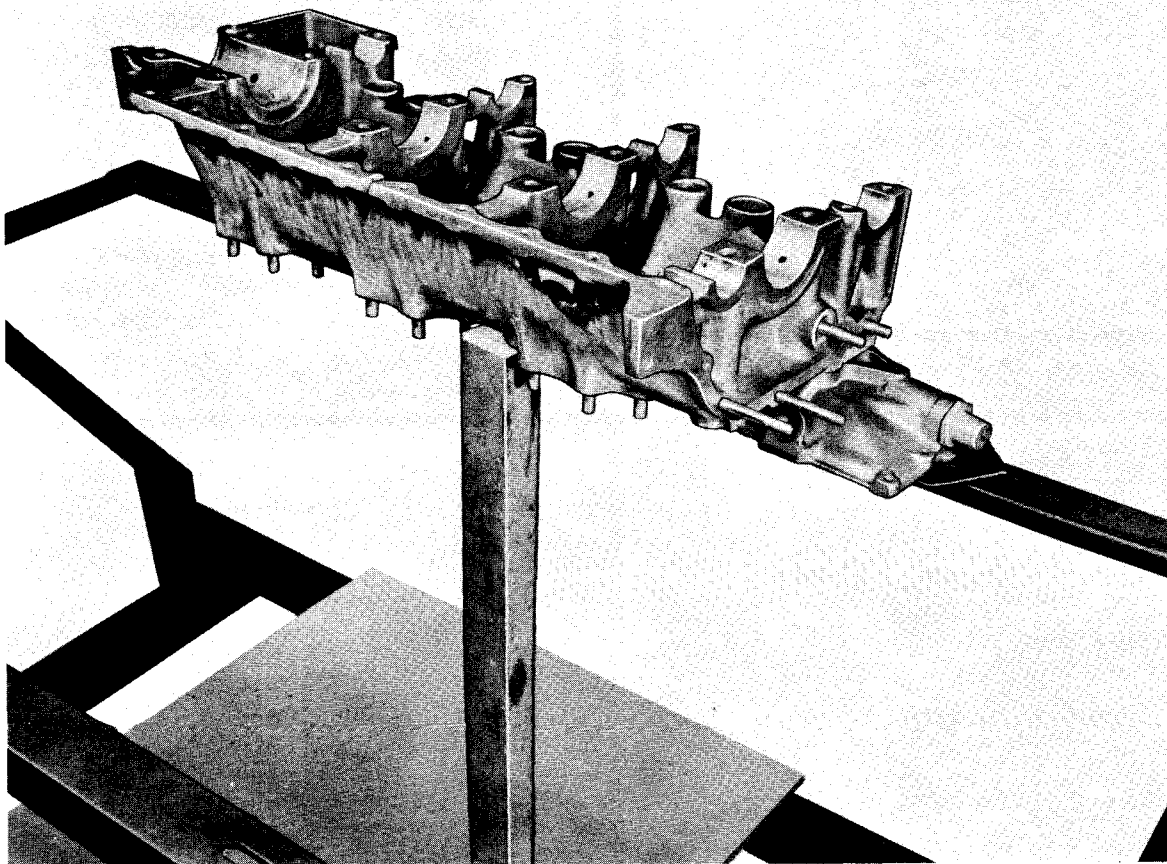

Figure 8-1. Left Crankcase on Stand, Supported.
a. Attach mounting legs of left crankcase to engine assembly stand and support it as shown in Figure 8-1.